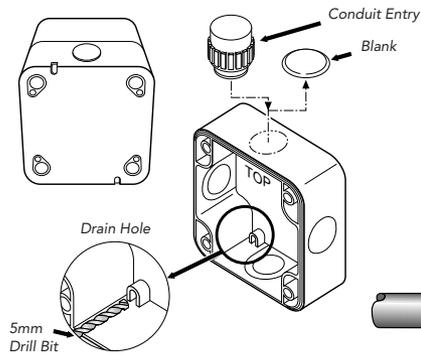

Fig. 1
3. Drill out the drain hole if required, refer to installation notes 4 and 5 and figure 1. The complete profile should be filed out taking care not to damage the small internal wall.